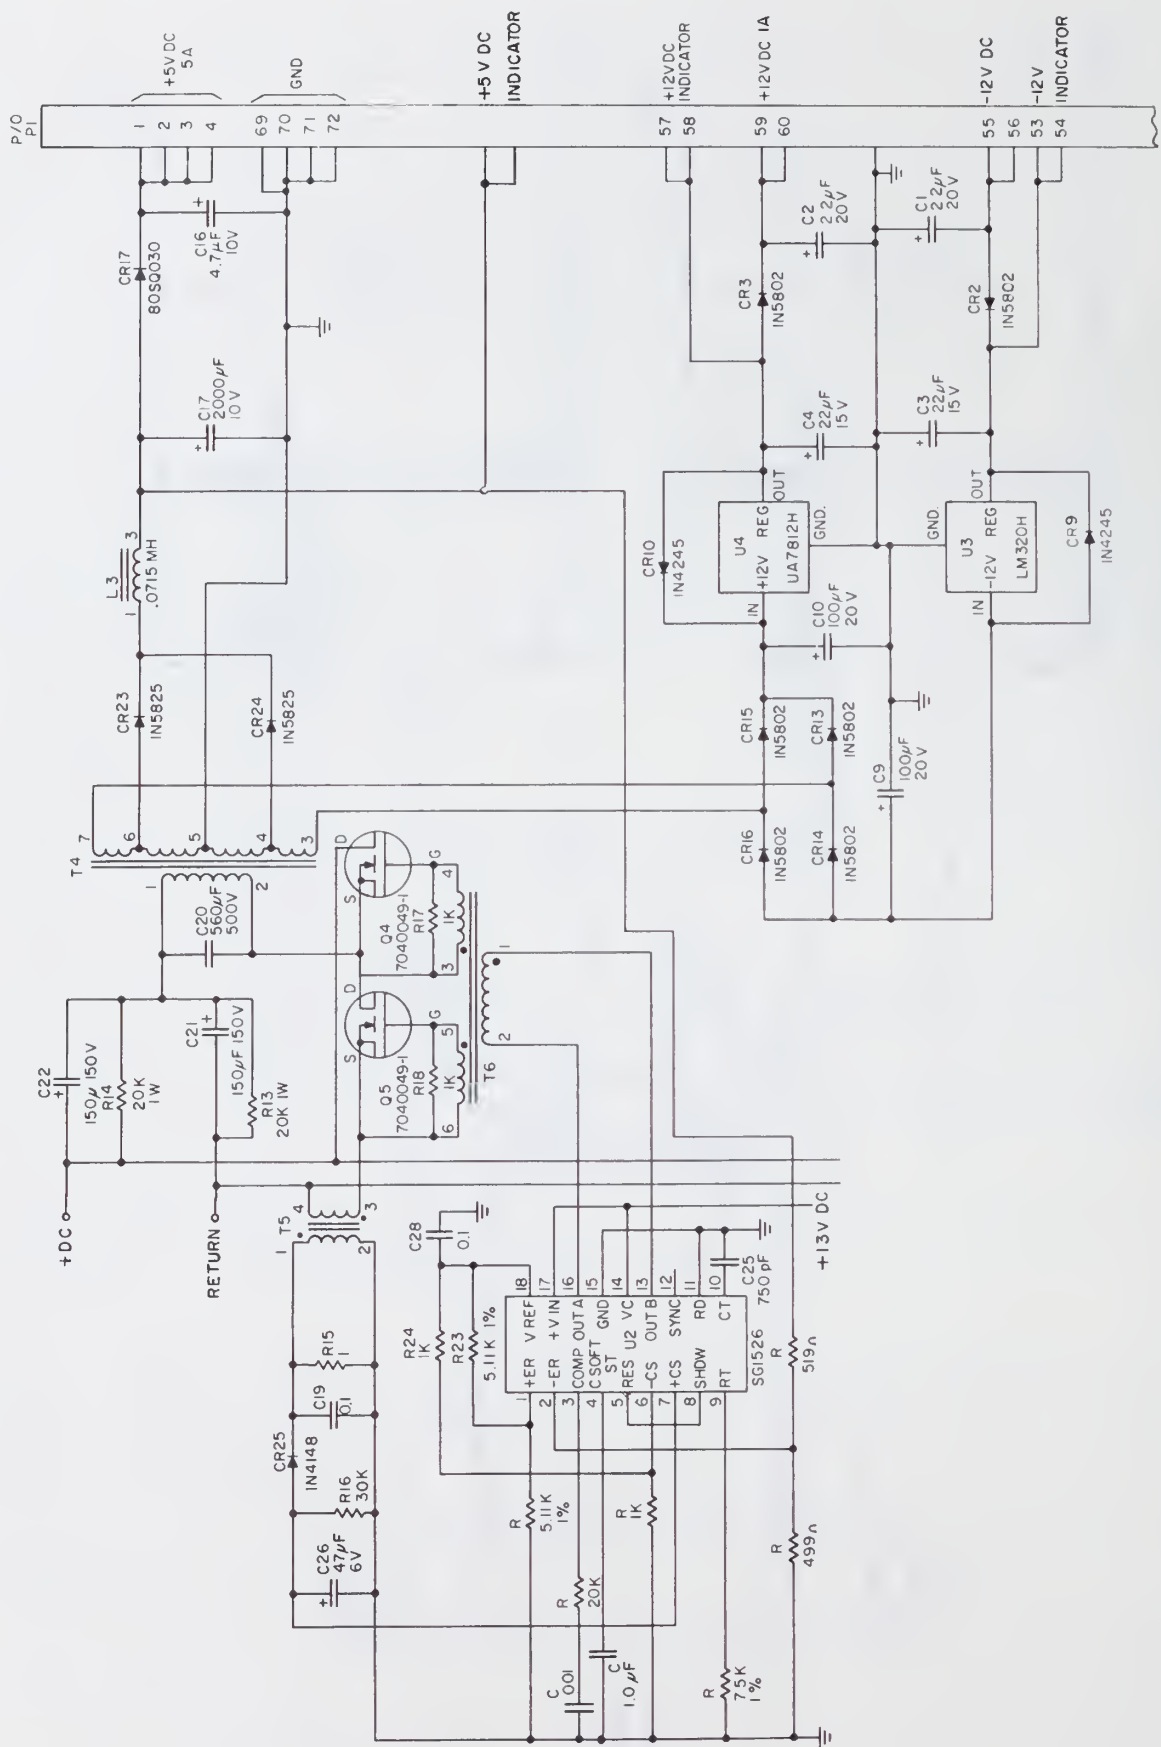

Figure 2-12. Switching Converter with 5 Vdc and  $\pm 12$  Vdc Output Voltages
**2.4.1.3** A switching converter with 5 Vdc and  $\pm 12$  Vdc output voltages (see figure 2-12) is an off-line half bridge converter. The dc voltage is switched at 100 KHz rate in the primary winding of the transformer T4. Two power MOSFET transistors, Q4 and Q5, are connected in a half-bridge configuration, which acts as the power switch. The transistors' gates are driven by a low power transformer T6. The primary of the transformer is coupled to the output of the PWM IC. This IC has all the control needed for voltage regulations and current-limiting. The voltage regulation is achieved by sampling a scaled value of the output voltage. This voltage is fed to the input of the error amplifier of the IC. The result of this control loop is a pulse width modulation to the primary of the output transformer which maintains the output regulation.